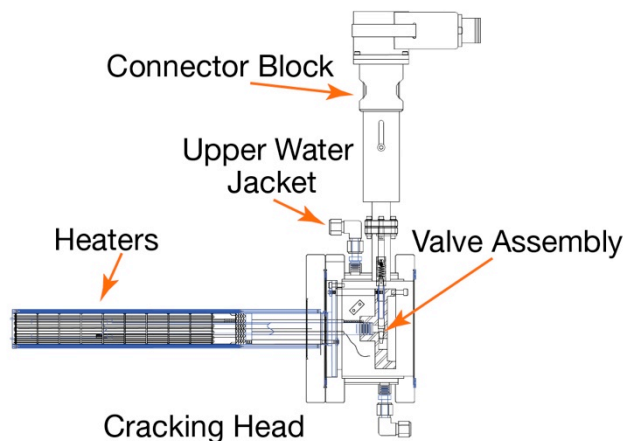

Figure 2: Cracking Head
5. **Mount the moly crucible to the valve body.** See Figure 2. Place the crucible gasket over the flared end of the crucible. Use the three 6-32 x 0.5" titanium socket head cap screws to mount the crucible onto the